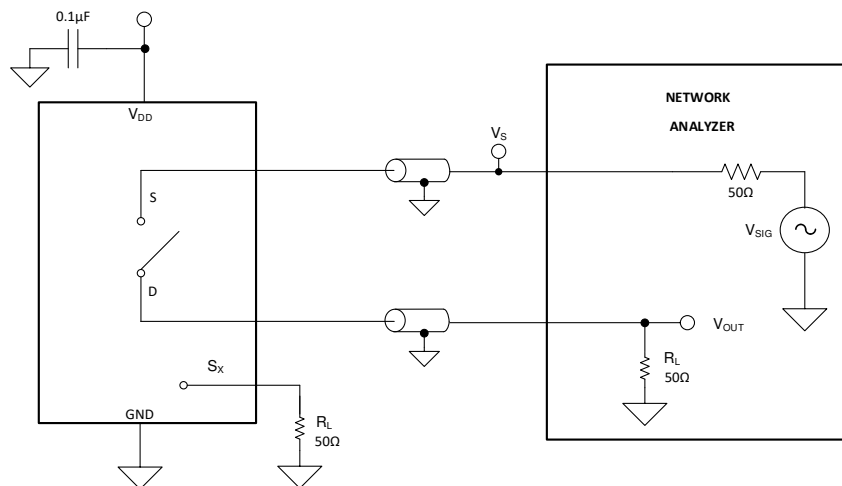

图 8-8. Off Isolation Measurement Setup
Off isolation is defined as the ratio of the signal at the drain pin (D) of the device when a signal is applied to the source pin (Sx) of an off-channel. 图 8-8 shows the setup used to measure, and the equation to compute off isolation.